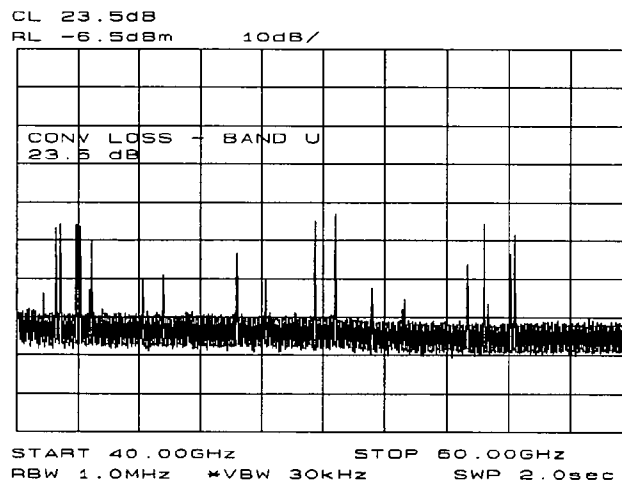

Figure 3-32. Store and correct for conversion loss.
2. Table 3-1 lists default conversion-loss values that are stored in the analyzer for each frequency band. These values approximate the values for the HP 11970 Series Mixers. Other conversion-loss values may be entered into the spectrum analyzer in two ways. The first allows the user to save the average conversion-loss value for the entire band using **AVERAGE CNV LOSS**. To activate this function, press **AUX CTRL**, **EXTERNAL MIXER**, **AMPTD CORRECT**, **AVERAGE CNV LOSS**, then enter the appropriate average conversion-loss value. On HP 11970 Series Harmonic Mixers, these values are charted on the mixer. The U-band mixer used for this example had an average conversion loss of 35 dB, as depicted in Figure 3-32.